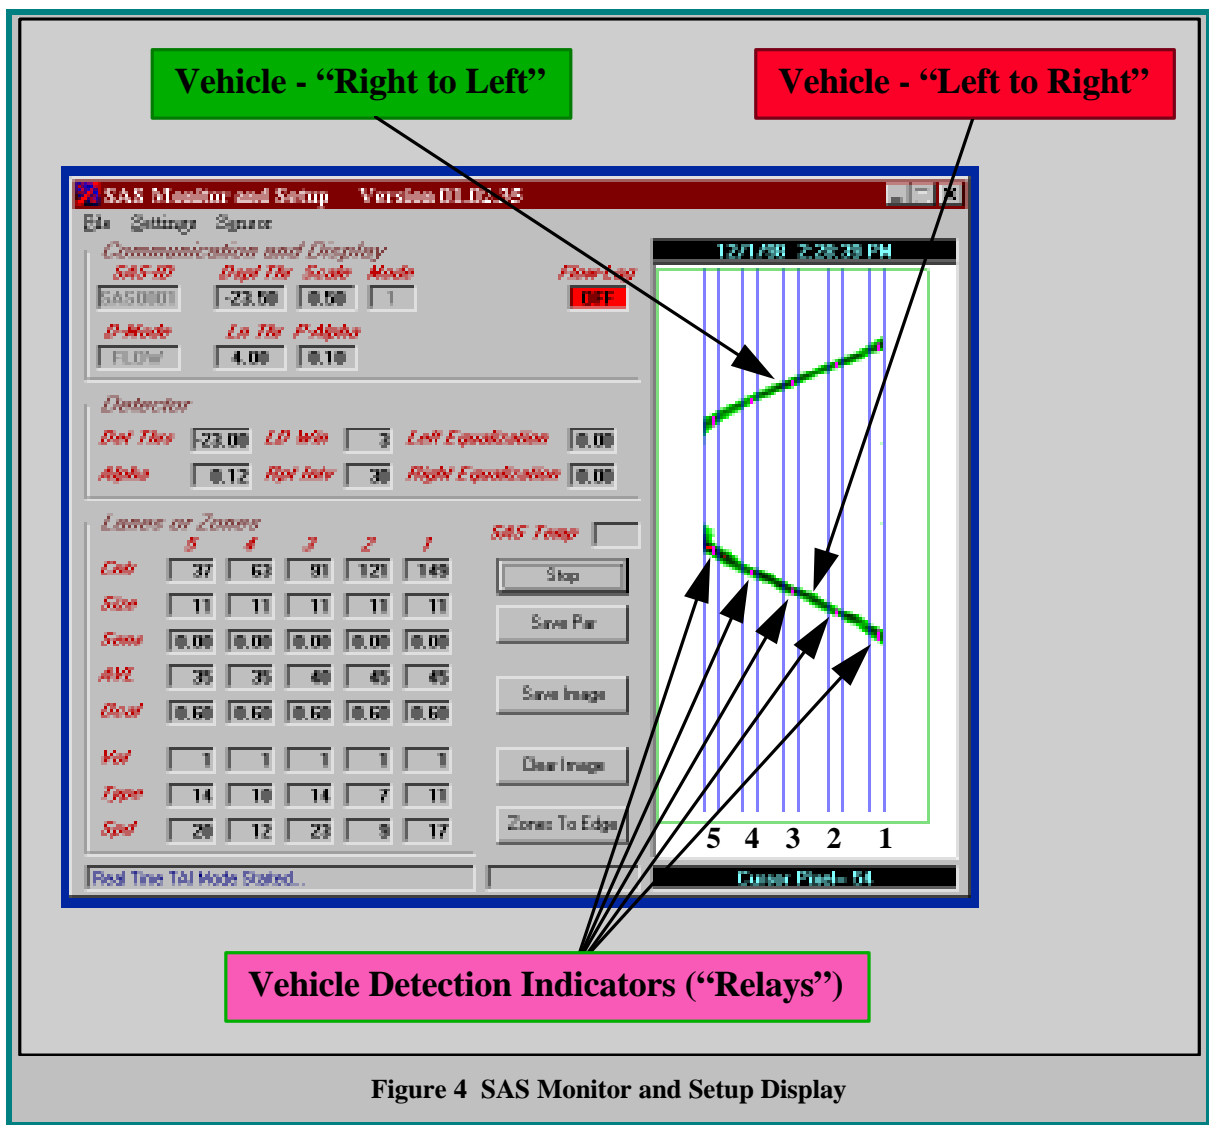

Figure 4 SAS Monitor and Setup Display
The real acoustic signal display in figure 4 was captured from the SAS Monitor and Setup Program. The display shows real acoustic signals as “green tracks” and the corresponding vehicle detection indicators as “magenta markers” at the center of each detection zone. Time increases from top to bottom on the display. Therefore, as vehicles pass by the sensor, their signal will show up at the top and move to the bottom of the display. Also, depending on whether a vehicle moves from “Left to Right” or “Right to Left” as referenced from behind the SAS-1, the signal track will move from “upper left to the lower right” or “upper right to the lower left” respectively. For this example, vehicles passing by the SAS-1 from “Right to Left” are assumed to be moving the correct way. Vehicles passing by SAS-1 from “Left to Right” are assumed to be going the “Wrong Way”.
Consider again the real acoustic signals shown in the display of figure 4. The previous discussion illustrated how the direction of the acoustic track (light green) and hence, the order that the vehicle presence relays become active indicates direction of travel (upper right to lower left or upper left to lower right). If one measures the actual value of the slope of the acoustic track (green track on the display) as it passes the SAS-1, then per vehicle speed can be accurately determined from the value of the slope. A fast moving vehicle has a large slope (nearer horizontal on the display) while a slow moving vehicle has a small slope (nearer vertical on the display). Note that just as in-pavement loops are spaced in the up/down road direction, each detection zone for SAS-1 corresponds to a physical location in the up/down road direction. Therefore, measuring the time between SAS-1 zone detections (relays become active) is the same as measuring the slope of the acoustic signal track and corresponds exactly to measuring time between loop detections in a double loop speed trap. One major difference, however, is that for the SAS-1 approach, we have four (4) time measures (between zone 1 and 2, between zone 2 and 3, etc.) to use for averaging instead of just one. This will result in a more accurate per vehicle speed measurement.